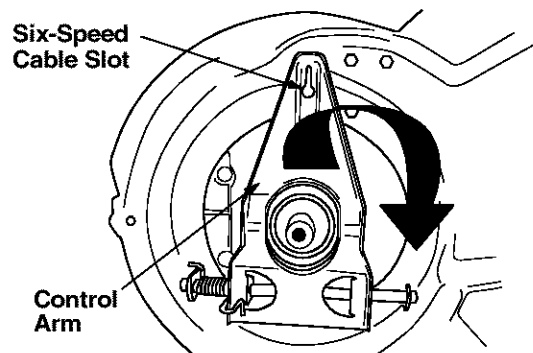

Figure 28
- Pivot the control arm back to its original position and reinstall the six-speed cable into the slot. See Figure 28.